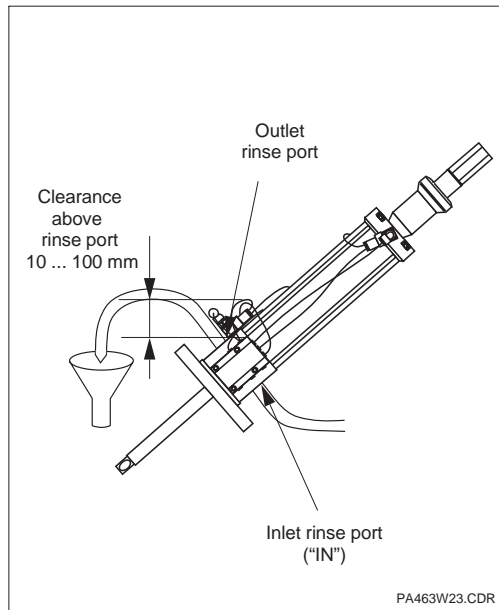

Bild 3.5 Assembly installation using the rinse port
- In order to avoid draining off of the rinse chamber the assembly has to be installed according to fig. 3.5.